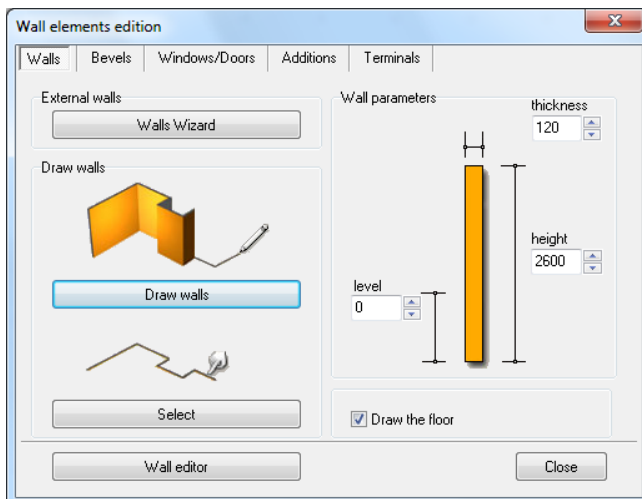

Fig. 66 – Wall Elements Edition dialog box
This icon opens a dialog box presented below (Fig. 66).
- In the new window (Fig. 66) define the thickness and height of the walls and the level of the room;